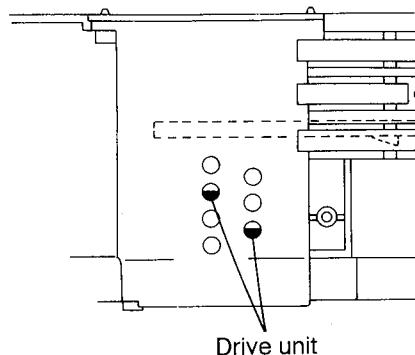
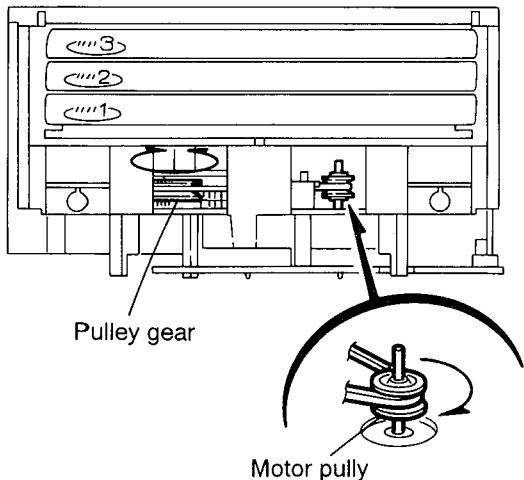

Fig. 2-16a
Fig. 2-17
11. Make sure that the driver unit elevator is positioned as shown in Fig. 2-16a from the second or fifth hole on the left side face of the CD changer mechanism.
- [Caution]** In case the driver unit elevator is not at the above position, set the elevator to the position as shown in Fig. 2-16a by manually turning the pulley gear as shown in Fig. 2-17.